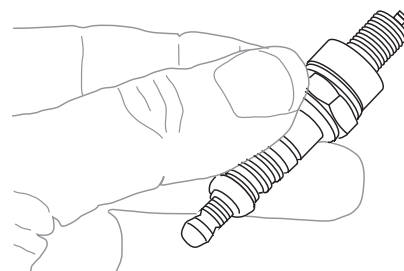

Figure 15
3. When installing a new spark plug, adjust the plug's gap to the specification on the technical specification chart. Do not pry against the electrode or the insulator, the spark plug can be damaged (see Figure 15).